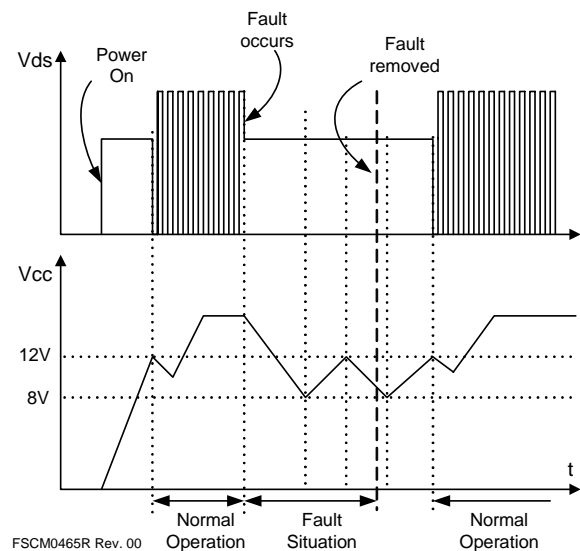

Figure 20. Auto Restart Operation
3. Protection Circuit: The FSCM0465R has several self-protective functions, such as overload protection (OLP), over-voltage protection (OVP) and thermal shutdown (TSD). Because these protection circuits are fully integrated into the IC without external components, the reliability is improved without increasing cost. Once the fault condition occurs, switching is terminated and the SenseFET remains off. This causes V_{CC} to fall. When V_{CC} reaches the UVLO stop voltage of 8V, the current consumed by the FSCM0465R decreases to the startup current (typically 20μA) and the current supplied from the DC link charges the external capacitor (C_a) connected to the V_{CC} pin. When V_{CC} reaches the start voltage of 12V, the FSCM0465R resumes normal operation. In this manner, the auto-restart can alternately enable and disable the switching of the power SenseFET until the fault condition is eliminated (see Figure 20).